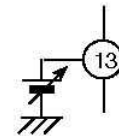

Fig.2
5. Swith(Pin 13) can be changed by supplying some voltage as Fig.2.